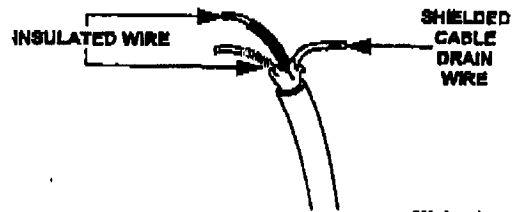

Figure 5. Shielded Cable Detail
- Connect the shielded cable drain wire (bare wire shown in Figure 5) to the black wire on the control panel cable and ground on the AVM.